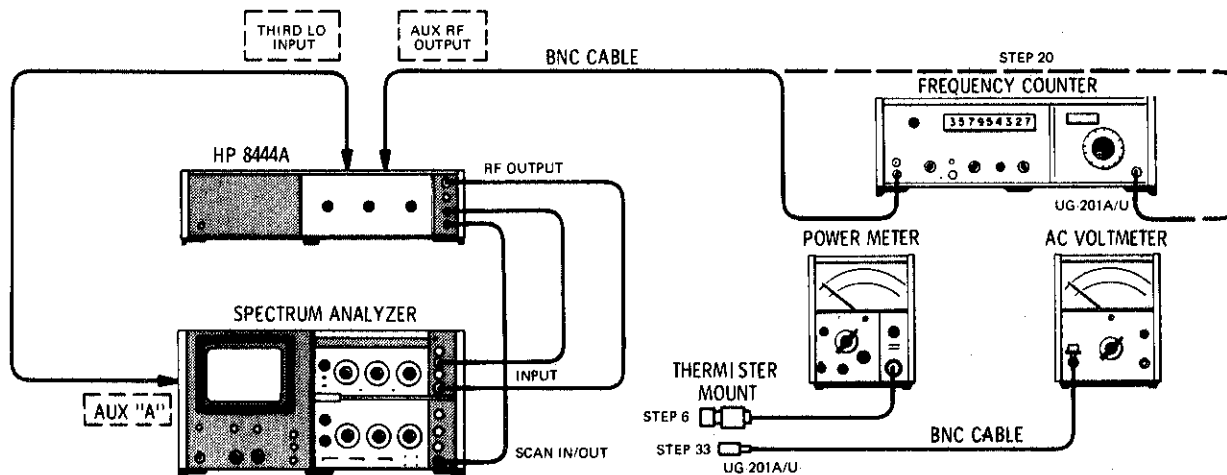

Figure 4-1. Output Level Accuracy Test Setup
- 2. Connect test setup as indicated in Figure 4-1 and make the following control settings: